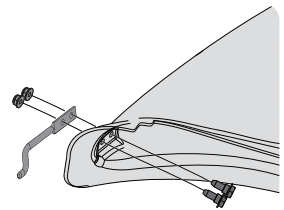

Figure 18
- From the inside of the boot, put two hex head shoulder screws (738-1225) through the holes at the bottom front of the boot. See Figure 18.
- Put the mounting rod (747-06309) in place over the hex head shoulder screws. Make sure the tip of the rod is facing out from the boot. See Figure 18.
- Begin threading the hex nuts (712-04064) onto the hex head shoulder screws. See Figure 18.